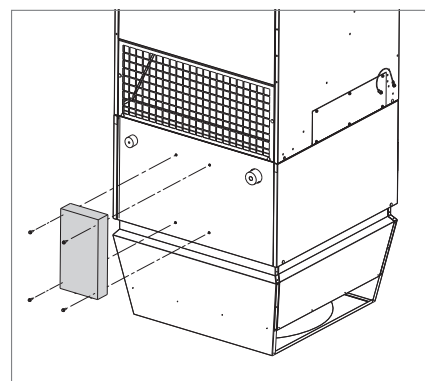

Fig. 35: Installing the EEV kit
- Screw the EEV kit to the below-roof unit as shown in Fig. 35.